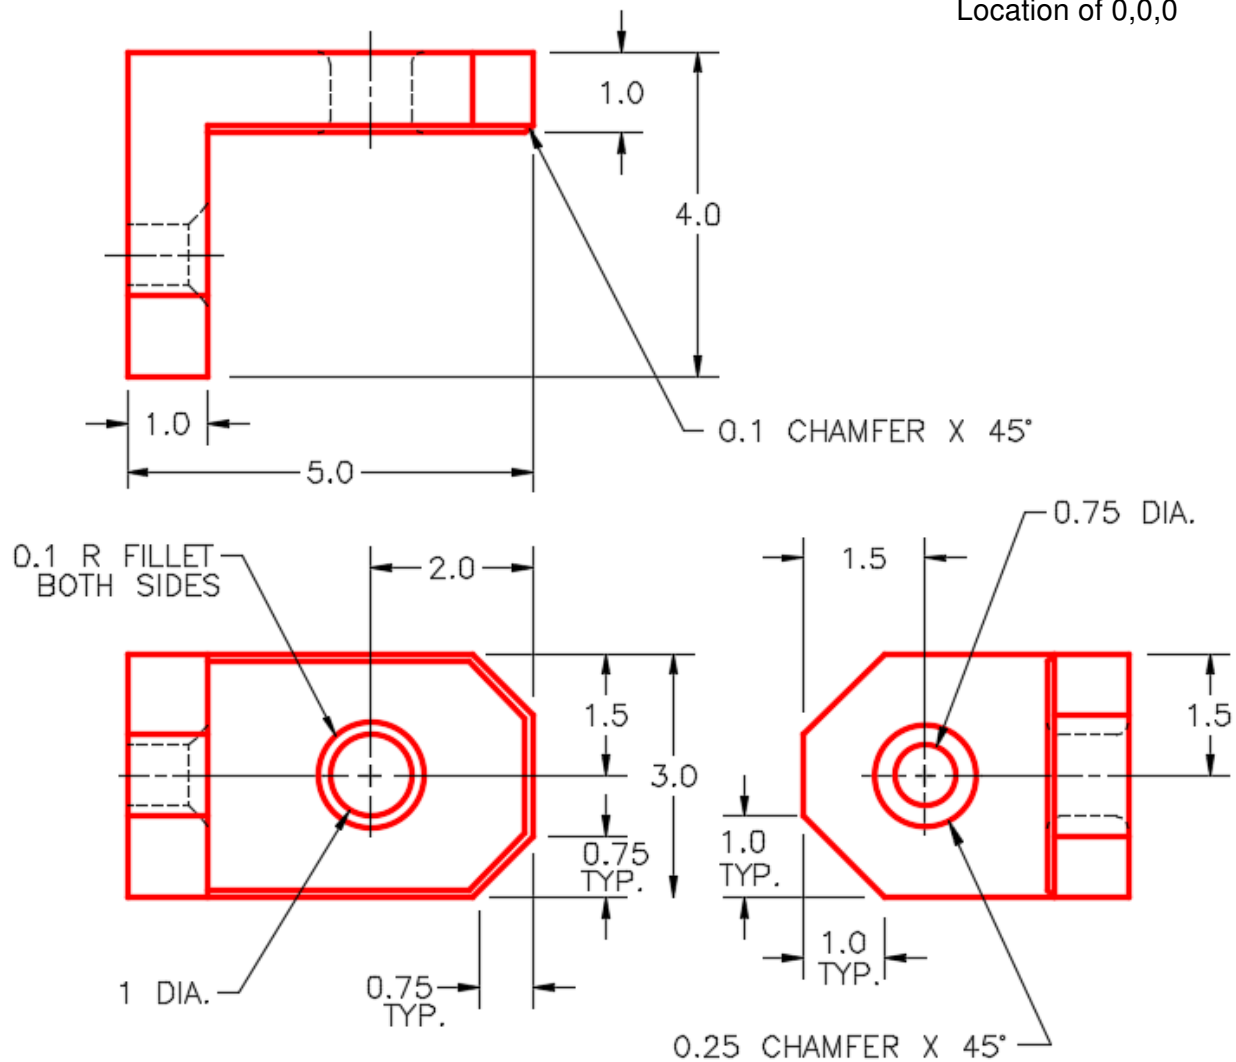

Figure Step 2A
Step 2 On layer: Solid 3, draw a solid model of the object shown in the figures. (Figure Step 2A, 2B, and 2C)